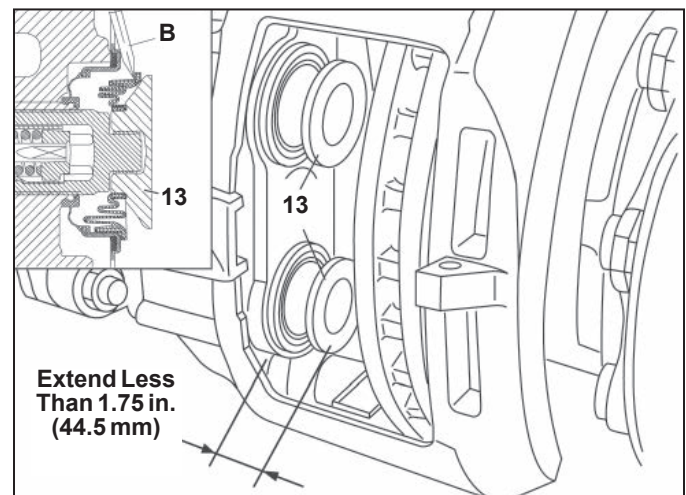
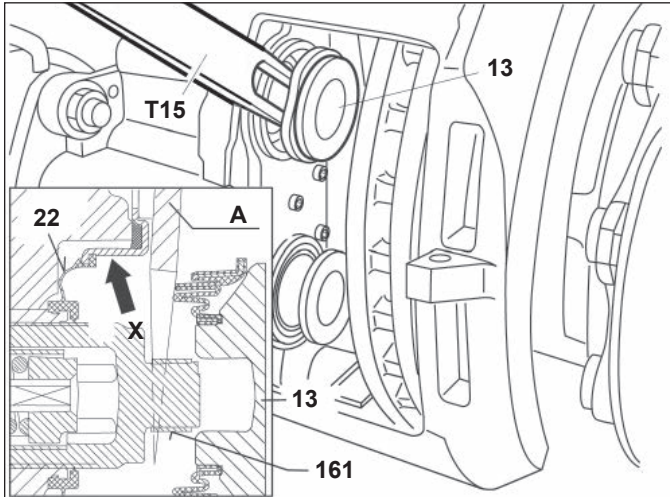

Figure 47 – Permitted Tappet Extension
Figure 48 – Wedge Tool Use
CAUTION: NEVER EXTEND THE TAPPET MORE THAN 1.75 in. (44.5 mm). See Figure 47. Over-extending the tappet will result in the tappet losing engagement with the threads of the synchronizing mechanism. Since the mechanism can only be set at the manufacturing plant, the caliper/carrier assembly must be replaced if this happens.
5.5.4 See Figure 47. Extend the tappets – less than 1.75 in. (44.5 mm) – by turning the shear adapter (61) clockwise. A screwdriver (*callout “B” in Figure 47 inset*) should be used to move the boot and allow the wedge fork (“A” in Figure 48) to be inserted.
CAUTION: Do not insert the screw driver more than ¼ inch. Take care not to damage the inner sealing face (see arrow “X” in Figure 48). Gouges or grooves will prevent a good seal and will require that the caliper be replaced.